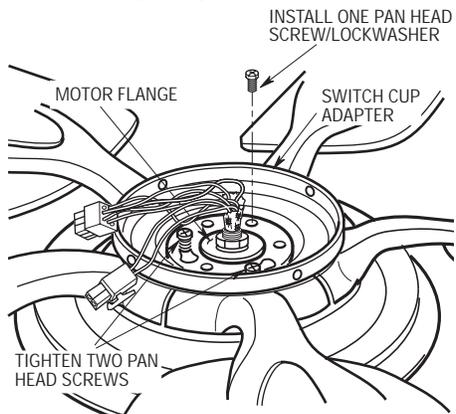

Figure 3
- 8. Turn the switch cup adapter clockwise and tighten both screws (Figure 3). Reinstall the other pan head screw/lockwasher in the remaining hole in the switch cup adapter.